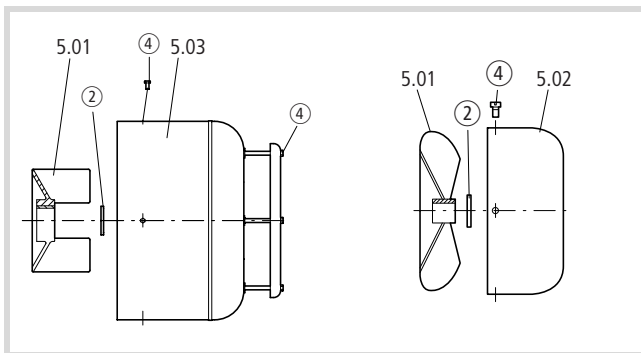

Figure 3: Undoing cowl screws and removing the retaining ring
- ▶ Remove the fastening screws ④ of the fan cowl (5.02-03) and remove it (➔ Fig. 3).
- ▶ Remove the retaining ring ② from the fan (5.01).